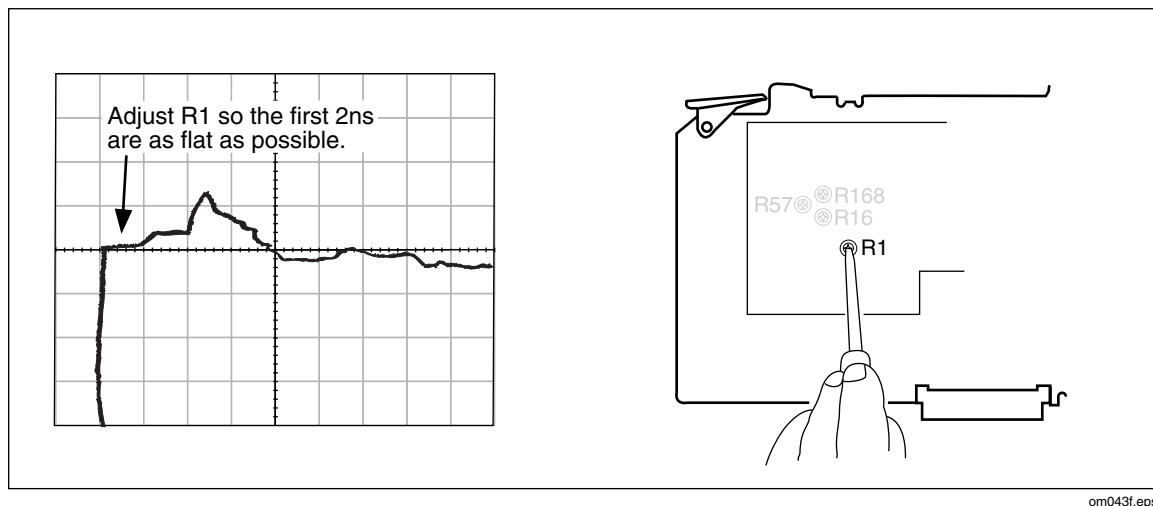

Figure 6-20. Adjust the Ledge Flatness with R1
7. Now adjust pot R1, and observe the ledge that occurs within the first 2 ns of the rising edge. Adjust R1 so this ledge is as flat as possible. Refer to Figure 6-20.